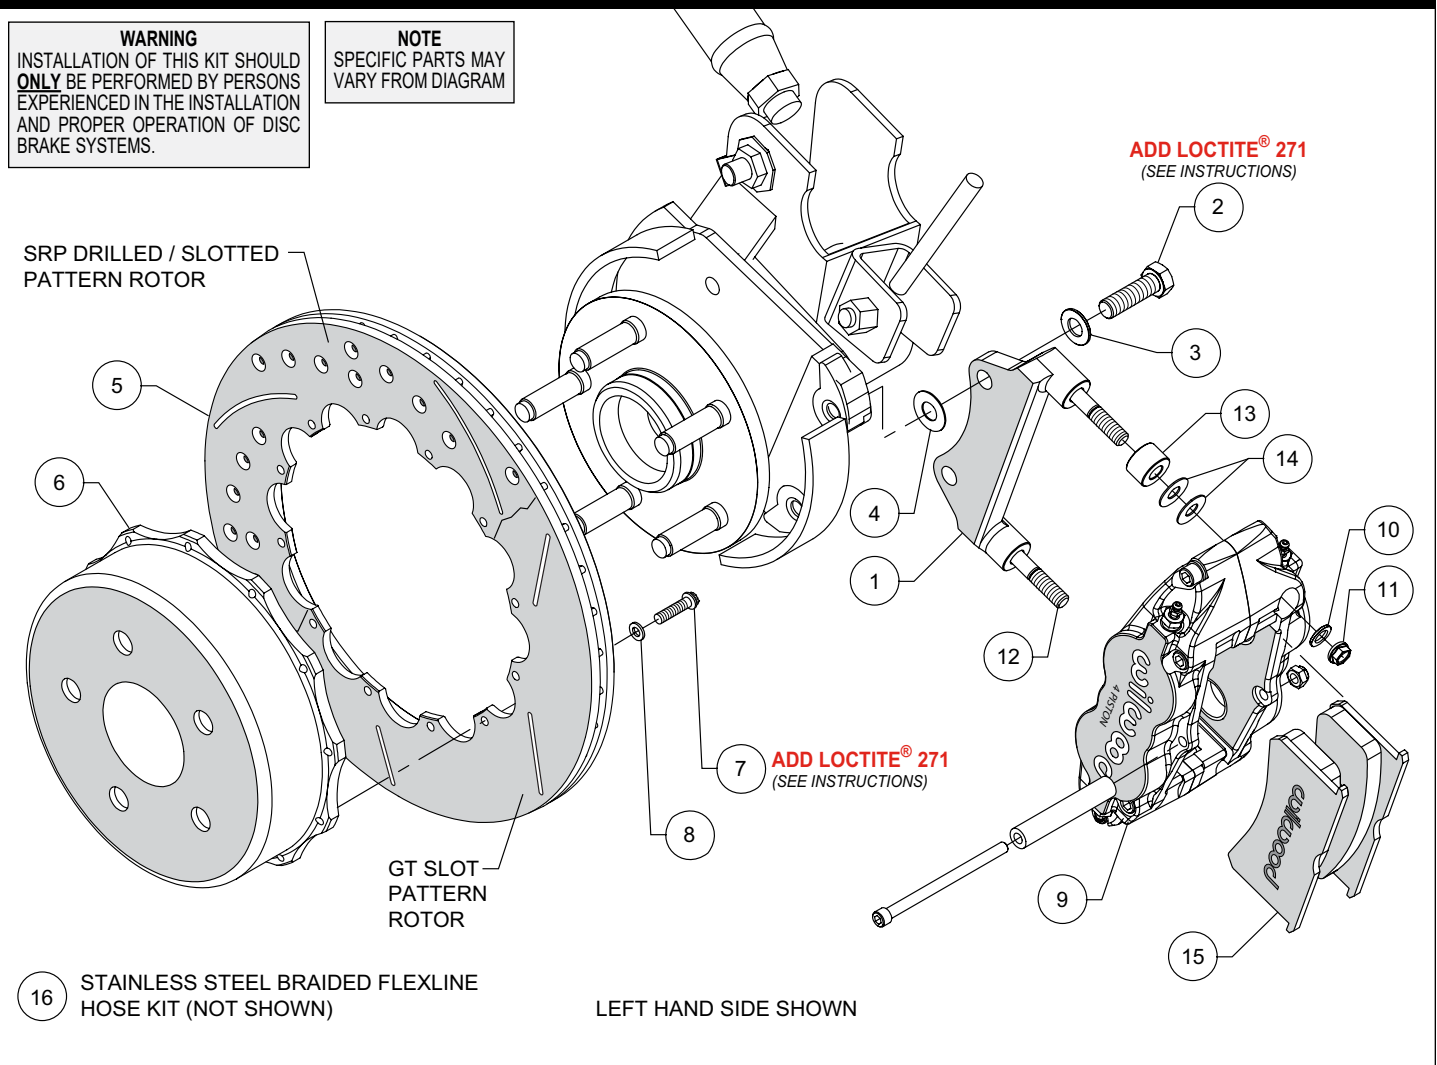
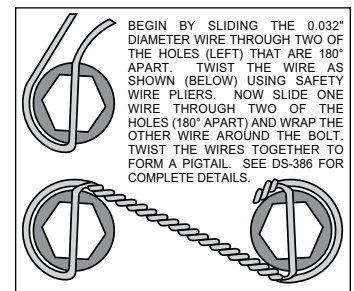

Figure 1. Typical Installation Configuration
Figure 3. Safety Wire Diagram
Assembly Instructions (numbers in parenthesis refer to the parts list and Figure 1 on the preceding pages):
- The caliper mount bracket (1) should initially be installed with clean, dry threads on the mounting bolts. Orient the bracket as shown in Figure 1, and install using mount bolts (2) and washers (3). Initially place one .033" thick shim (4) on each bolt between the bracket and upright, Figure 1. Temporarily tighten the mounting bolts. **NOTE:** The bracket must fit squarely against the mount bosses on the upright. Inspect for interference from casting irregularities, machining ridges, burrs, etc. Later, after the caliper alignment has been checked, the mount bolts will be secured using red *Loctite*® 271.
- Orient the rotor (5) and the hat (6) as shown in Figure 1 and Photo 2. Attach rotor to hat using bolts (7) and washers (8). Apply red *Loctite*® 271 to the bolt threads and torque to 140 **in-lb** using a criss-cross pattern. The bolts must be safety wired using standard 0.032 inch diameter stainless steel safety wire as shown in Figure 3. Please refer to Wilwood's data sheet DS-386 (available at www.wilwood.com/Pdf/DataSheets/ds386.pdf) for complete safety wire installation instructions.
- Initially place one spacer (13) and two .035" thick shims (14) on each stud (12) as shown in Figure 1 and Photo 4. Mount the caliper (9) onto the bracket (1) using lock nuts (11) and washers (10), Figure 1. Temporarily tighten the lock nuts and view the rotor through the top opening of the caliper. The rotor should be centered in the caliper, Photo 5. If not, adjust by adding or subtracting shims (4) between the bracket and the mounting bosses. Always use the same amount of shims on each of the two mounting bolts. Once the caliper alignment is correct, remove the bracket mounting bolts one at a time, apply red *Loctite*® 271 to the threads, and torque to 60 ft-lb.